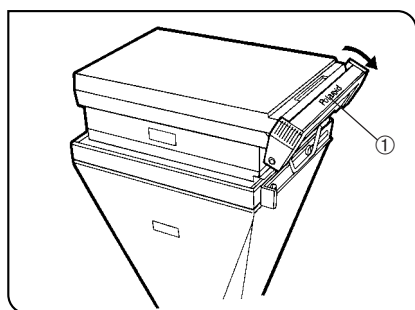

Fig. 25
2. Push the cover locking latch ① downward with both hands to flap it down in the direction of the arrow. (Fig. 25)